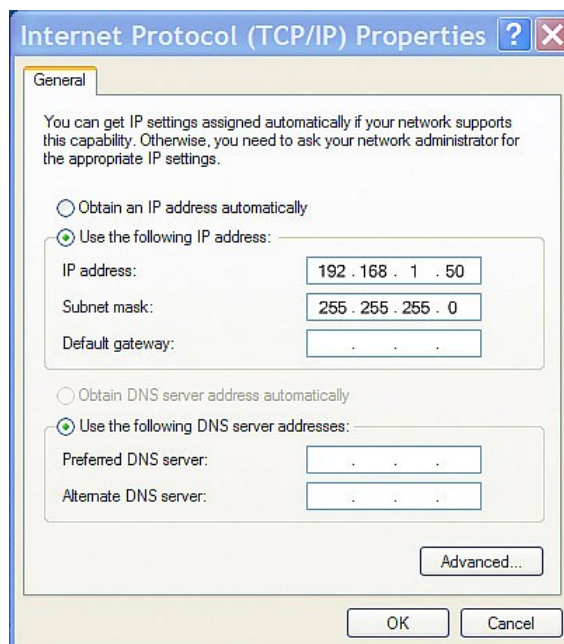

Figure 2.3e- TCP/IP Properties
4. In the Local Area Connection Properties window in the Connection Uses box, scroll down and highlight "Internet Protocol (TCP/IPv4)." Click the button labeled Properties. The Internet Protocol (TCP/IPv4) Properties menu appears (Figure 2.3e).